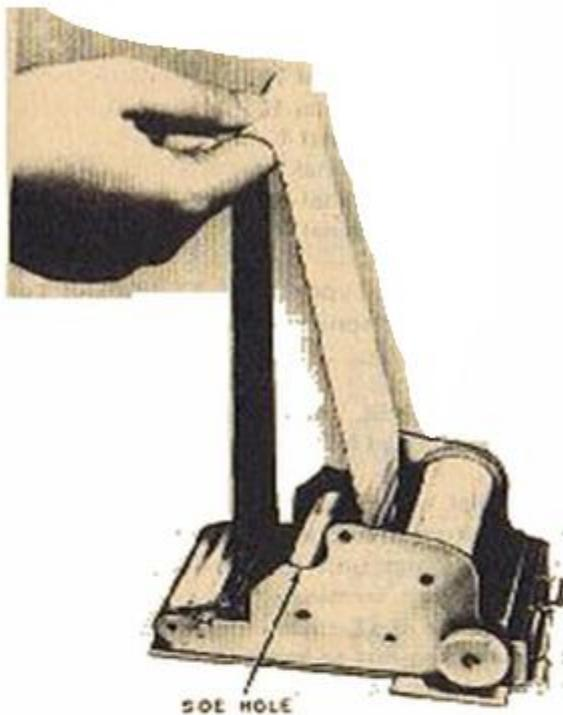

Figure 4. Drawing Loop Up From Directory Tape.
3.10 To install tape around the typewriter roller (platen), proceed as follows (Figure 4):
- (b) Place a finger through the side hole under the directory tape near the top of the cartridge and pull the tape upward about 6 inches to form a loop (Figure 4). Insert the typewriter roller through this loop.